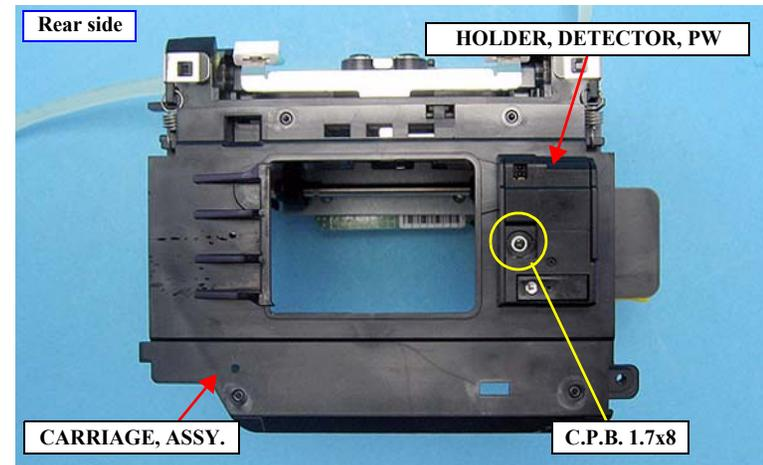

Figure 4-144. Removing the HOLDER, DETECTOR, PW
2. From the rear side of the CARRIAGE, ASSY., remove the screw that secures the HOLDER, DETECTOR, PW. See Figure 4-144.